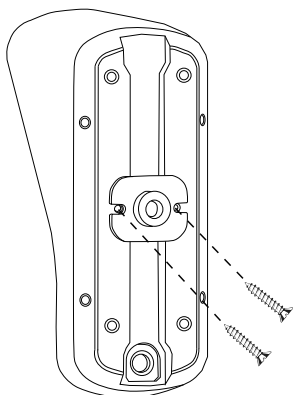

Figure 1
- » Fix the connector on the base of the sensor using the two screws as shown in figure 1, observe the existing hole in the base, then insert the shaft through the hole, rotating it clockwise as shown in figure 2.